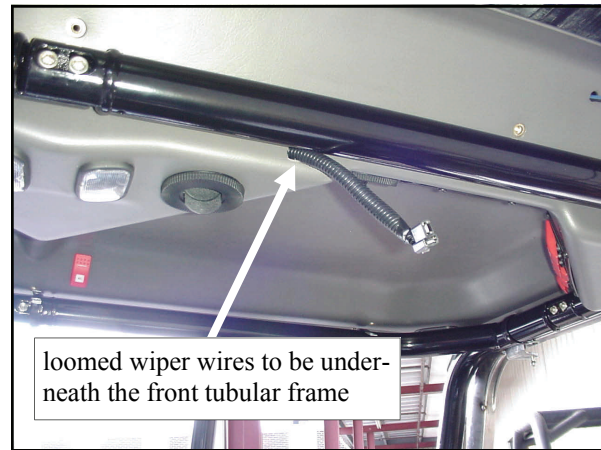

Fig. 8.3 View from driver's side
8.3 A driver's side wiper is provided. Place the driver's side wiper wire below the front tubular frame as shown in fig. 8.3. If installing an optional passenger's side wiper, place that wire below the front tubular frame as well. If not installing a passenger's side wiper, push the passenger's side wiring up into the console to hide it.